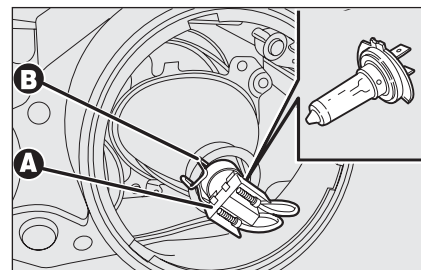

fig. 26
- ☐ disconnect the electric connector **A-fig. 26**;